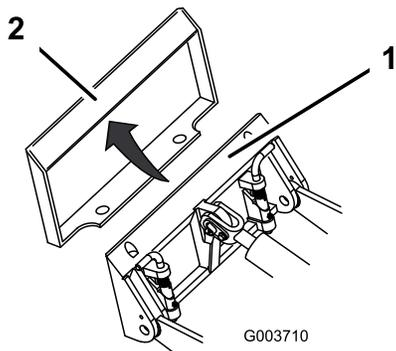

Figure 15
4. Position mount plate into the upper lip of the attachment receiver plate (Figure 15).